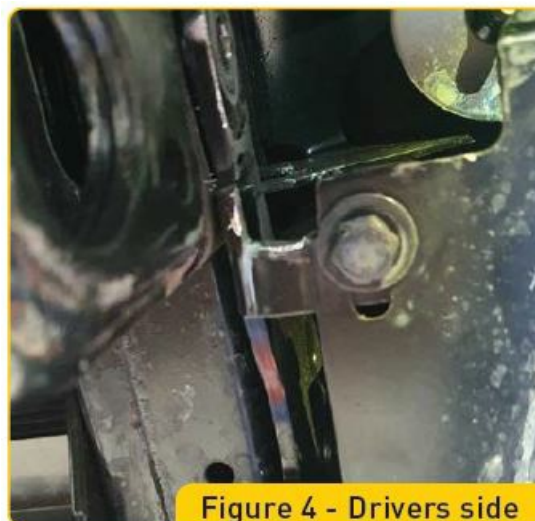

Figure 4 - Drivers side
3. Using a suitable cutting tool, cut a slot in the right-hand side wing support bracket to allow clearance for the recovery point bracket. See figure 4.